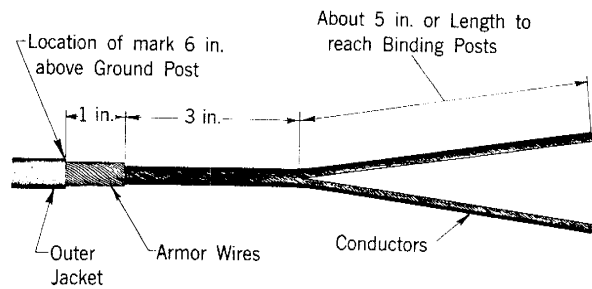

**Fig. 6 — Measure Amount of Slack at Terminal**
- (b) Where possible, place the terminals in advance of the wire plowing operation. This provides the workman with an exact reference point for measuring the proper amount of slack to be left at each location. Fig. 6 indicates some methods for accomplishing this.